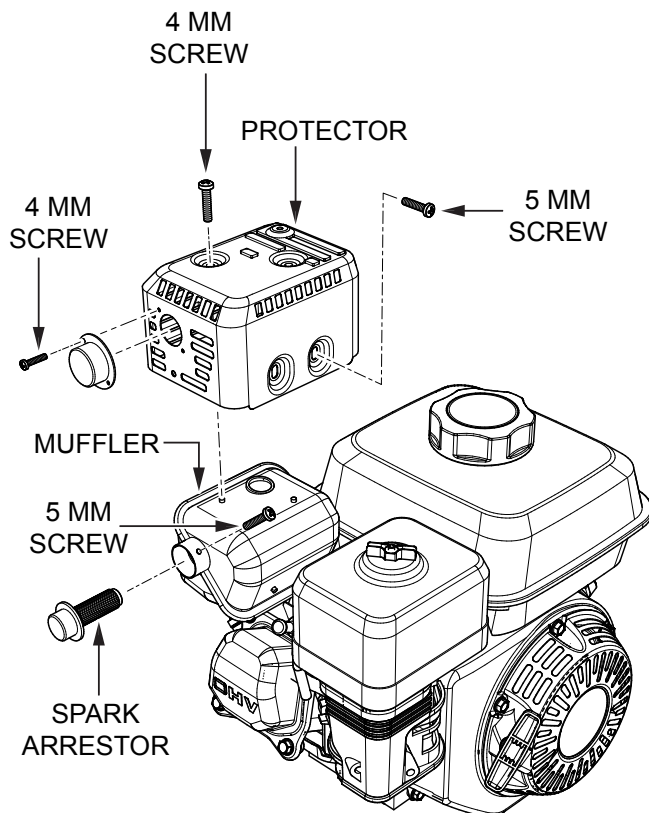

Figure 31. Spark Arrester Removal
1. Remove the 4 mm screw (3) from the exhaust deflector, then remove the deflector. See (Figure 31).
2. Remove the 5 mm screw (4) from the muffler protector, then remove the muffler protector.